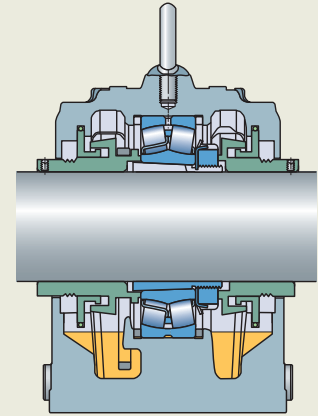

Fig. 6
- The pumping effect of some bearing types can be used to circulate the oil. In fig. 6, the spherical thrust roller bearing pumps oil which returns to the thrust bearing by connecting ducts located under it.